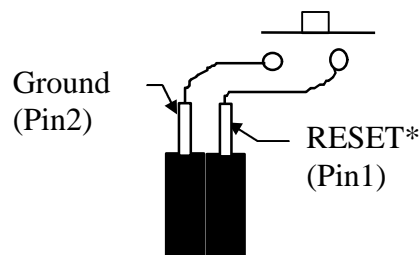

Figure 19 Connectors for the Download-Run and RESET switches.
3. Cable the push button *Reset* and the *Download-Run* switches according to the circuit in and Figure 19. Cut the former 3.5 inches and the latter to 3 inches.